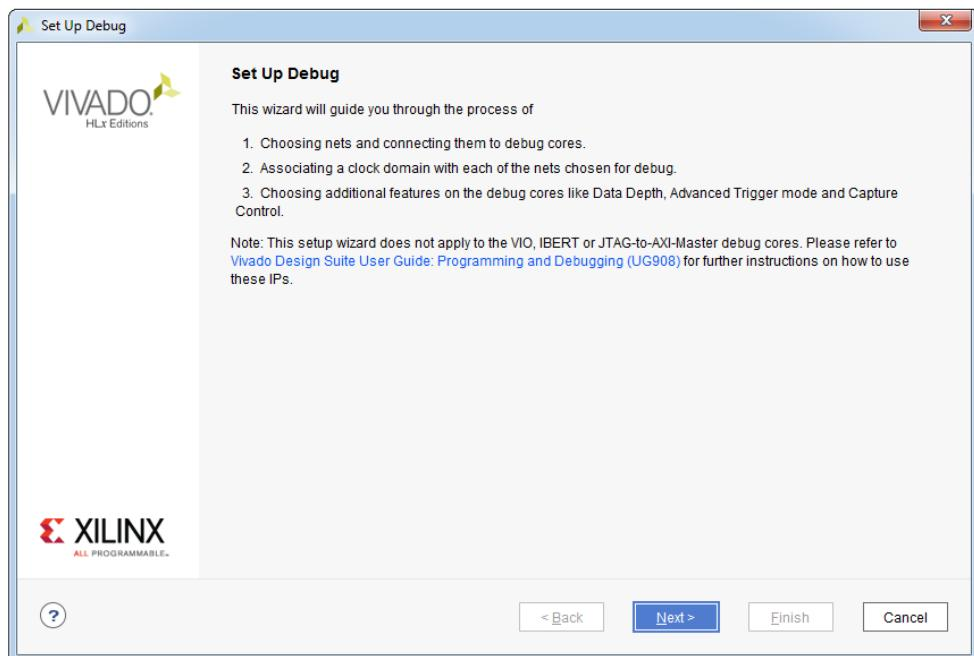

Figure 11.22: Set Up Debug dialog box
21. In the **Set Up Debug** dialog box, click **Next** to open **Nets to Debug** dialog box, see Figure 11.22.